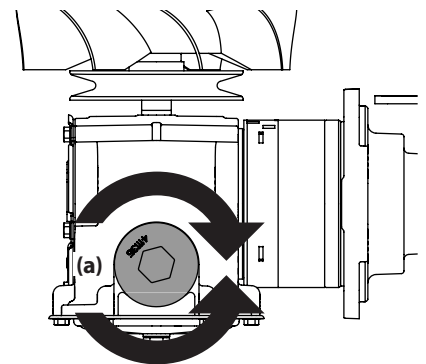

Figure 36
2. Place a suitable container under the drain plug (a) on the transmission. Remove the drain plug (a) and allow the transmission oil to drain. See Figure 36.